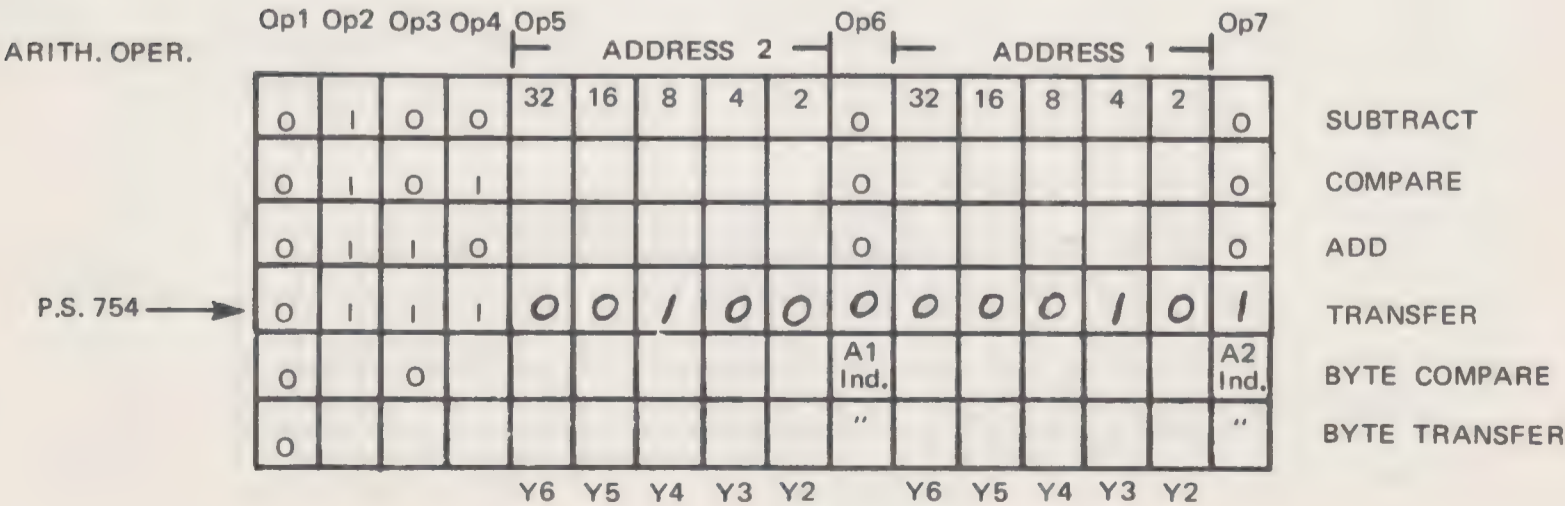

Figure 5
- The next step is to transfer the character "T" into Byte 316 in the input area of memory. For this step we will use an Arithmetic program step which will operate on data or addresses of data in two different low order registers. In this step we will do what is called a P INDIRECT TRANSFER. The indirect term means that we are using the register being operated on as an ADDRESS rather than for DATA. Program step 754 will appear in memory as illustrated in Figure 5.